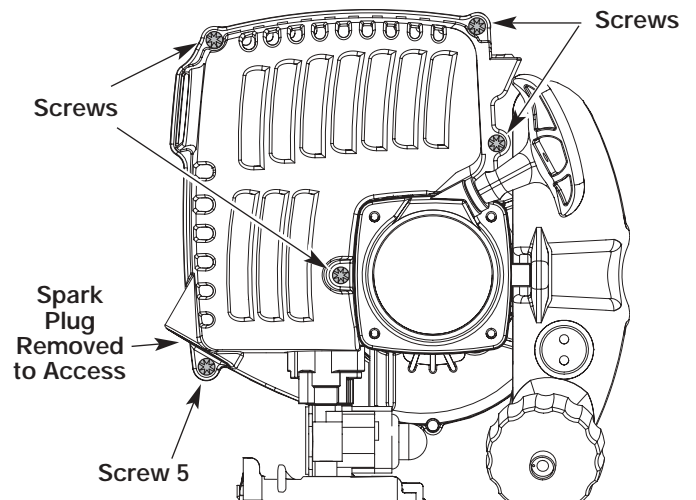

Fig. 13
2. To access the muffler and spark arrester, you must remove the engine cover. Using a T-25 torx or flathead screwdriver, remove the five engine screws pictured in Figure 13.
**NOTE:** You will have to remove the spark plug to access one of the engine cover screws (Screw 5) (Fig. 13).